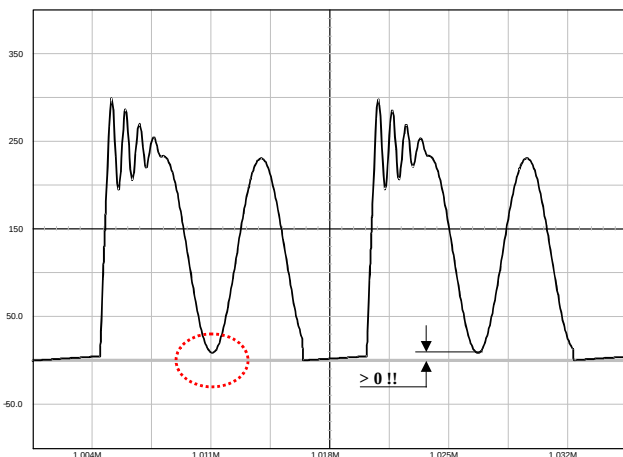

Figure 45. The Drain–Source Wave Shall Always be Positive
1. The lateral MOSFET body-diode shall never be forward biased, either during start-up (because of a large leakage inductance) or in normal operation as shown in Figure 45. This condition sets the maximum voltage that can be reflected during toff. As a result, the Flyback voltage which is reflected on the drain at the switch opening cannot be larger than the input voltage. When selecting components, you thus must adopt a turn ratio which adheres to the following equation:
Figure 47a: the simple capacitor limits the voltage according to the lateral MOSFET body-diode shall never be forward biased, either during start-up (because of a large leakage inductance) or in normal operation as shown by Figure 45. This condition sets the maximum voltage that can be reflected during t_{off} . As a result, the flyback voltage which is reflected on the drain at the switch opening cannot be larger than the input voltage. When selecting components, you must adopt a turn ratio which adheres to the following Equation 3. This option is only valid for low power applications, e.g. below 5 W, otherwise chances exist to destroy the MOSFET. After evaluating the leakage inductance, you can compute C with (Equation 4). Typical values are between 100 pF and up to 470 pF. Large capacitors increase capacitive losses...